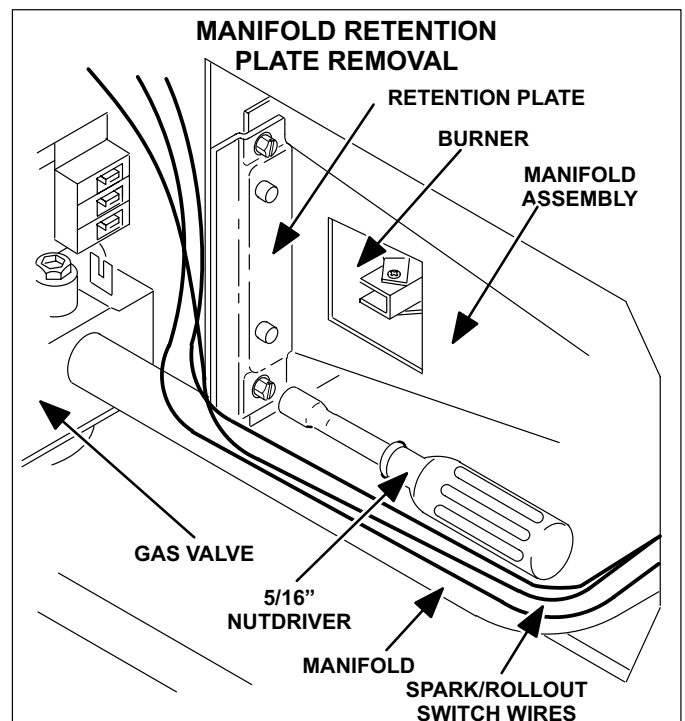

FIGURE 17
- 3 - Remove manifold retention plate (figure 17).